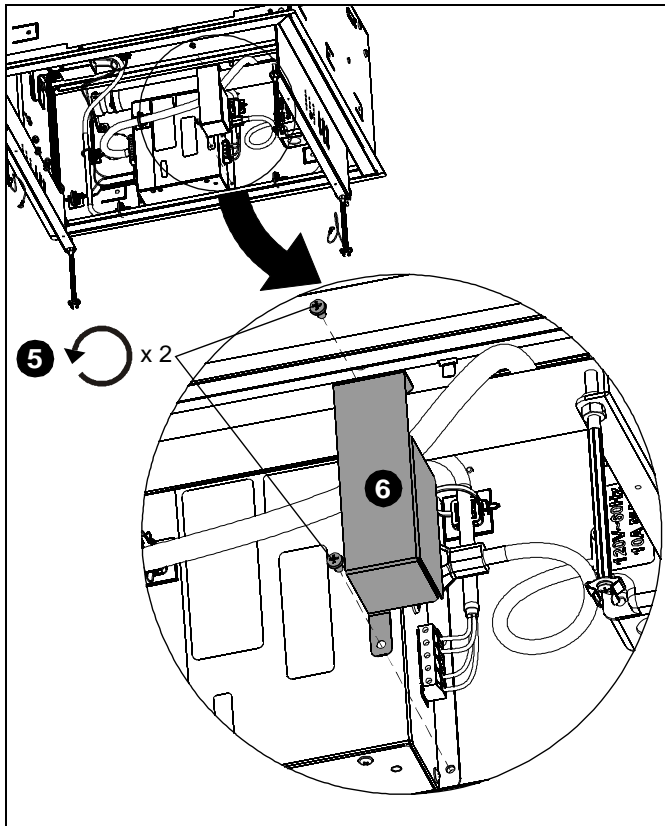

Figure 1
5. Remove and save two Phillips screws from motor connection cover. (See Figure 1)
6. Remove and save motor connector cover. (See Figure 1)